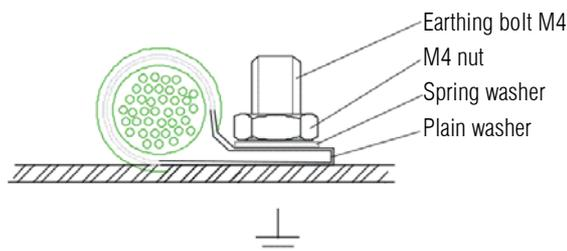

Fig. 35: Shielding of the keyboard cable
- 3 Attach the shielding of the keyboard cable to the switchboard as shown in Fig. 35, making sure to check that the fastening point is free of paint/coating.